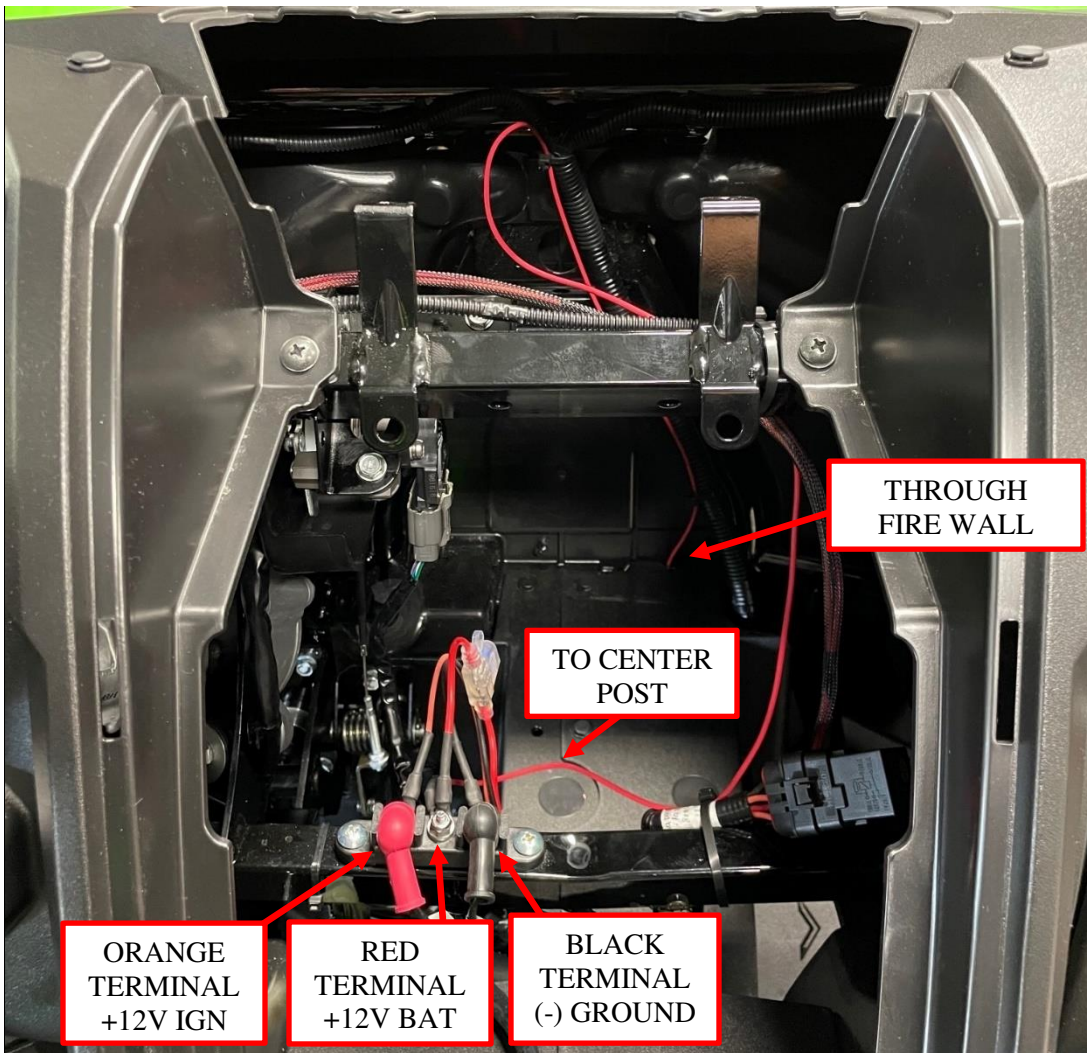
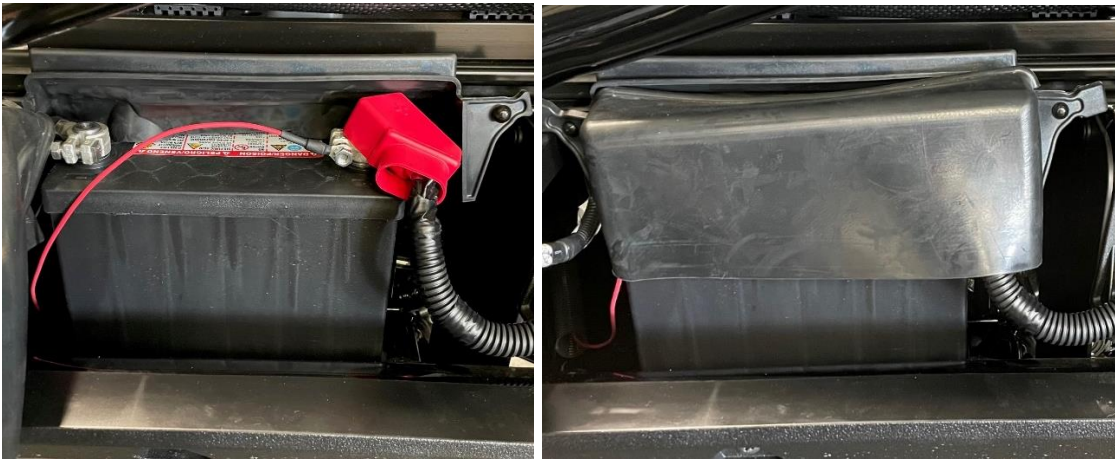

Figure 11: Connect battery jumper and chassis harness to bus bar terminals.
Figure 19: Install battery jumper cable and reinstall protective covers.
Route the wire along the factory loom and frame tubes, using zip ties to secure it in place. Install the chassis harness on the terminal posts with the included 10-24 nyloc nuts. Connect the orange ignition wire to the driver side post (red boot), the red wire to the center post with the battery jumper, and the black ground wire to the passenger side post (black boot). See Figure 11.
17. **Make sure the battery jumper wire is secured to the center post in Figure 11 before making the connection at the battery.** Connect the battery jumper wire to the positive (red) terminal on the battery as shown in Figure 19. Reinstall the rubber boot over the terminal, and reinstall the black rubber battery cover.